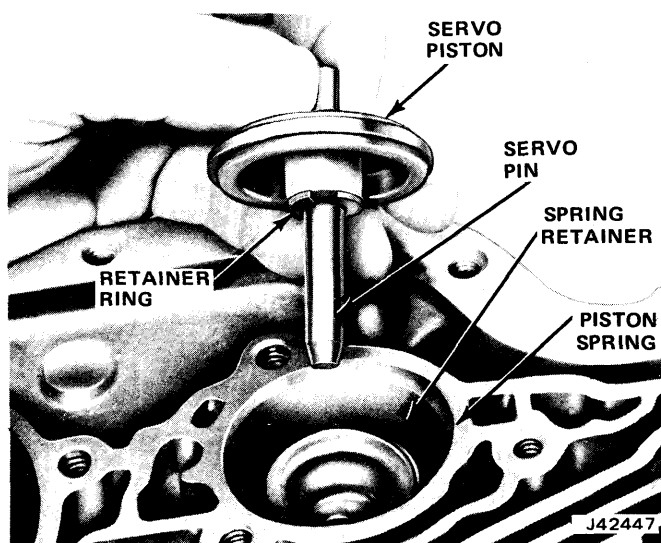

Fig. 7-18 Removing—Installing Front Servo Piston
- (5) Remove front servo piston, washer, pin, retainer and spring (fig. 7-18).